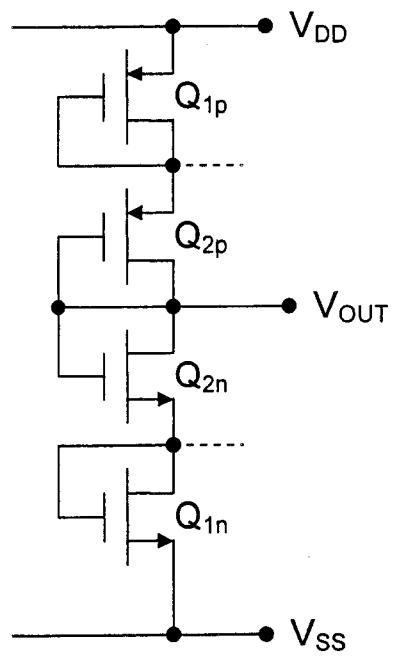

Figure 2.2
- (c) Explain qualitatively why the four-transistor voltage potential divider of Figure 2.2 can have smaller chip area than an equivalent two-transistor voltage potential divider with the same power consumption.